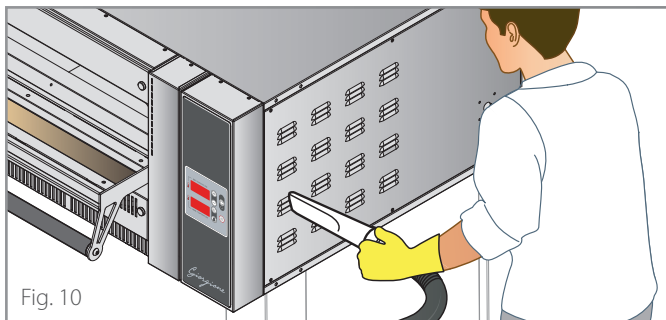

Fig. 10
► **Fig. 10** Keep the vents of the electrical compartment clean and clear.